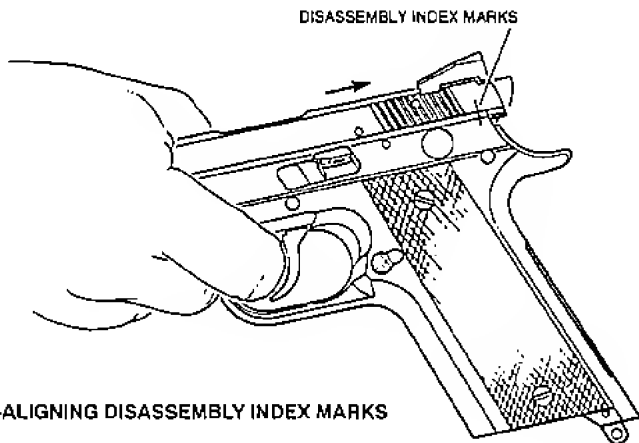

FIGURE 4—ALIGNING DISASSEMBLY INDEX MARKS
3. Put your left thumb through the trigger guard and with the other fingers grasp the top of the front part of the slide firmly (Figure 4) Push the slide slightly back until the two vertical lines on the rear part of the frame and slide are in line with each other.